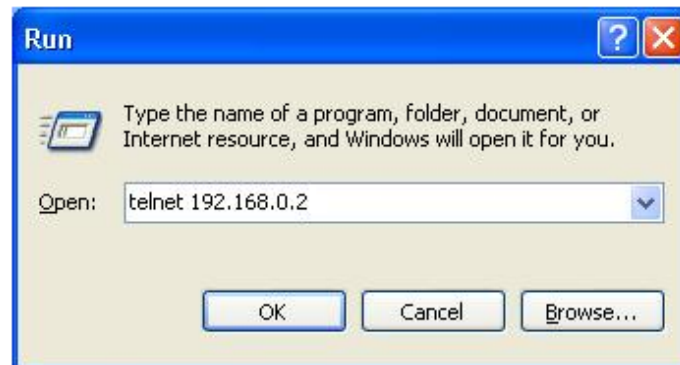

Figure 18 Access through Telnet
Step 2: Enter "telnet IP-address" in the Run dialog box, as shown in Figure 18. The default IP address of a Kyland switch is 192.168.0.2.